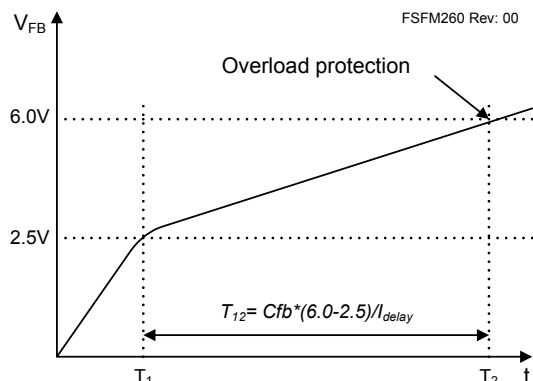

Figure 20. Overload Protection
3.1 Overload Protection (OLP): Overload is defined as the load current exceeding a pre-set level due to an unexpected event. In this situation, the protection circuit should be activated to protect the SMPS. However, even when the SMPS is in the normal operation, the overload protection circuit can be activated during the load transition. To avoid this undesired operation, the overload protection circuit is designed to be activated after a specific time to determine whether it is a transient situation or an overload situation. Because of the precise pulse current limit capability, the maximum peak current through the Sense-LED is limited and, therefore, the maximum input power is restricted with a given input voltage. If the output consumes beyond this maximum power, the output voltage (V_O) decreases below the set voltage. This reduces the current through the opto-coupler LED, which also reduces the opto-coupler transistor current, increasing the feedback voltage (V_{FB}). If V_{FB} exceeds 2.5V, D1 is blocked and the 5 μ A current source starts to charge C_B slowly up to V_{CC} . In this condition, V_{FB} continues increasing until it reaches 6V, when the switching operation is terminated, as shown in Figure 20. The delay time for shutdown is the time required to charge C_B from 2.5V to 6.0V with 5 μ A. In general, a 10 ~ 50ms delay time is typical for most applications.